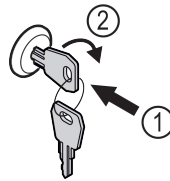

Fig. 161
- ▶ Insert the key. Fig. 161 (1)
- ▶ Turn the key clockwise by 90°. Fig. 161 (2)